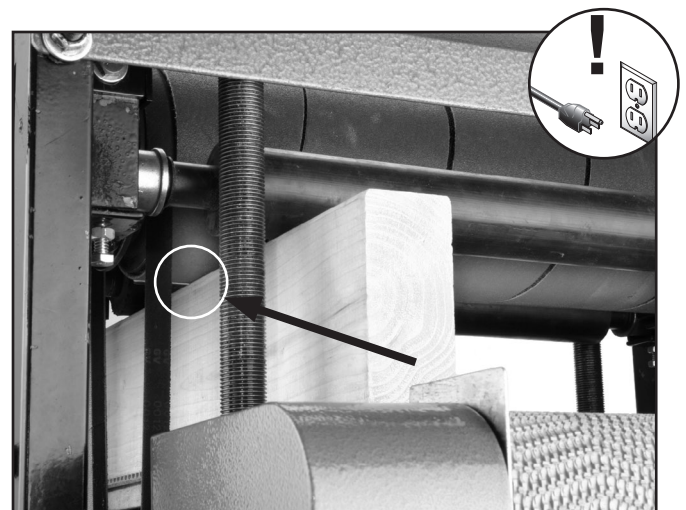

Figure 34. Gauge block touching bottom of sanding drum.
4. Raise the table so the gauge blocks touch the bottom of the sanding drum, as shown in **Figure 34**.